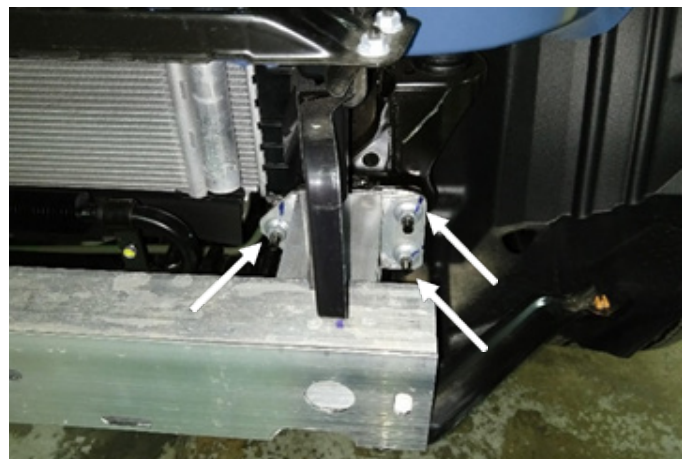

Figure 9
9. Using a 14mm socket wrench, remove the three (3) nuts per side holding the impact bar to the core support. (Figure 9)